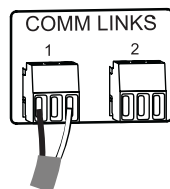

FIG. 2 Insert wires into Comm Link connector
3. Insert XNNet link cable wires; either wire goes in either outside slot (FIG. 2).